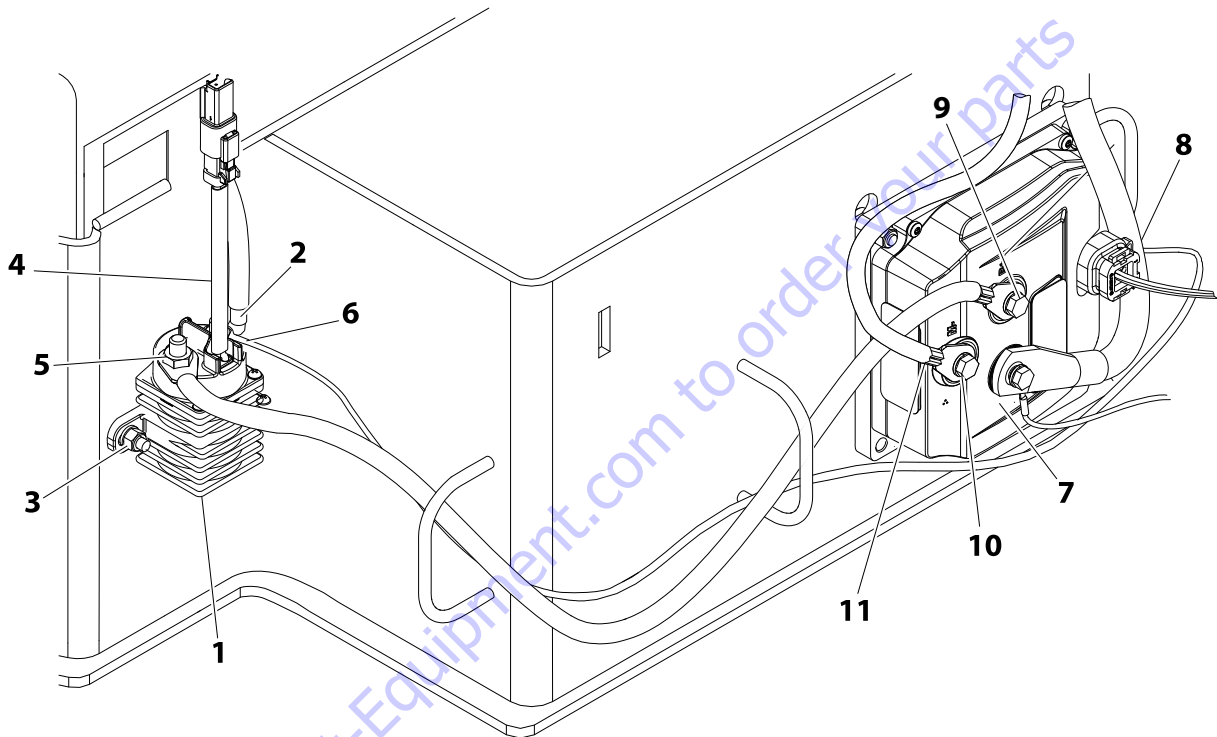

Figure 3-5. Main Power Contactor Relay and Pump Controller Module Location
The pump control module (item 7 - Figure 3-5.) is located inside the left side component door, mounted to the side of the battery box. Use the following instructions when replacing the pump control module.
1. When installing the pump control module, be sure that the terminals are oriented as shown in Figure 3-5.